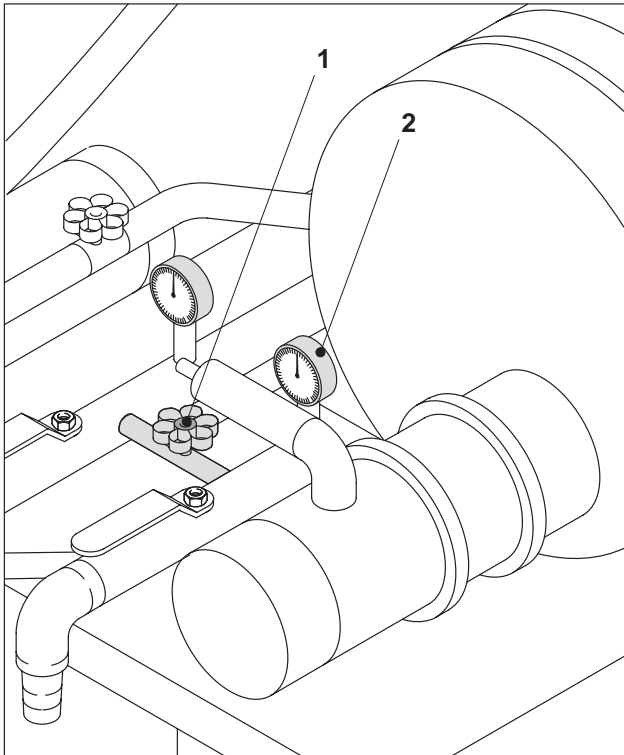

Fig. 24 By-pass valve with filling manometers
- 11 Adjust the operation pressure at the supply run to **3.0...4.0 bar** by means of the by-pass valve (Fig. 24/1).
When the temperature control device is switched on the manometer (Fig. 24/2) indicates the operation pressure.